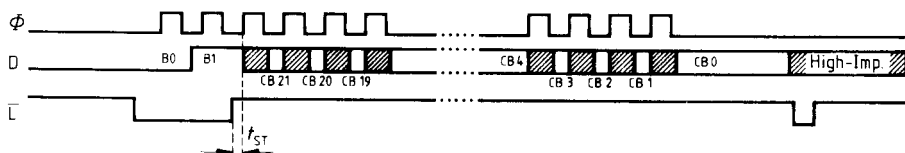

Figure 2a Presetting Count on NC
**Test Operation (figure 2a, 2b, 2c)**
**a) Presetting of count (figure 2a)**